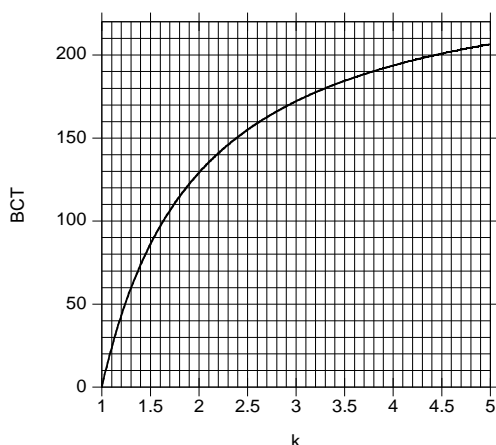

Figure 21: Relationship between the k Ratio and the Optimal BCT to Recover Linearity
Figure 21 shows the optimal BCT value for a particular k ratio.
The k ratio can be deduced from the error curve obtained with the default BCT setting (BCT = 0). Rotate the magnet more than one revolution and record the device's output. Then plot the error curve (the output minus the real mechanical position vs. the real mechanical position) and extract the two parameters: the maximum error (E) and the position of this maximum with respect to a zero crossing a_M (see Figure 21). k can be calculated with Equation (5):